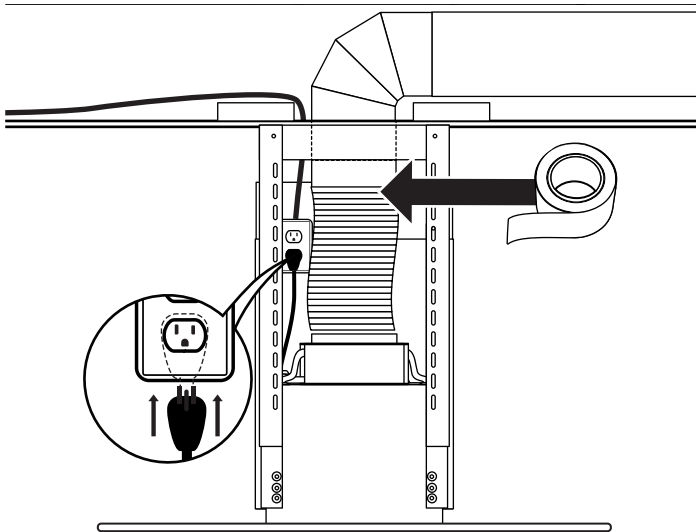

Figure 6
10. Lift the range hood and secure the four L-shaped brackets to the top plate already installed on the ceiling using screws as shown in Figure 6.
11. Connect the aluminum flexible duct to the exhaust pipe on the ceiling and plug in the power cord as shown in Figure 6.